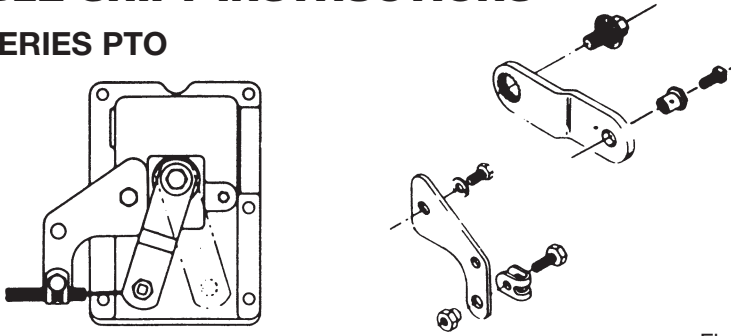

Figure 3
- Referring to Figures 3–7 on pages 13–15, install the appropriate brackets, clamps, and hardware.